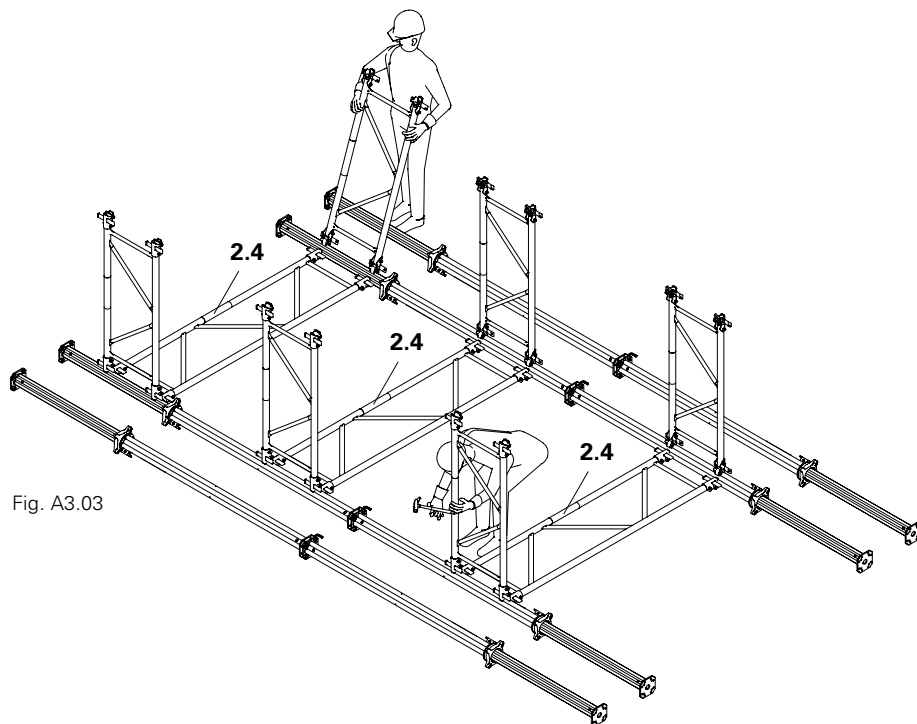

Fig. A3.03
3. Mount lateral frames. (Fig. A3.03)